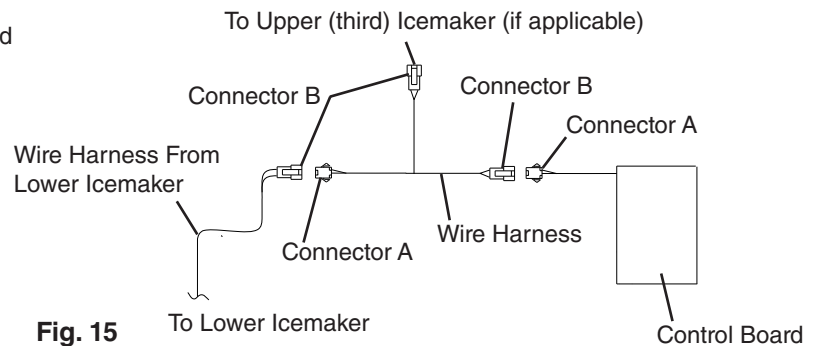

Fig. 15
- 24) Connect wire harness connector B to the control board connector A. See Fig. 15.